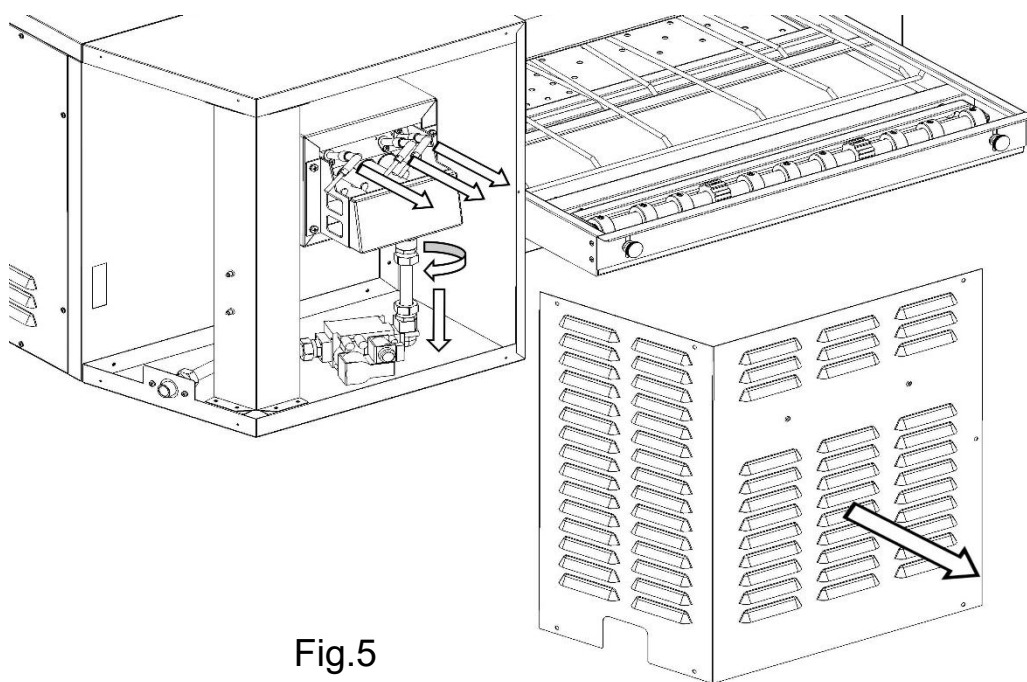

Fig.5
- 2.Remove the casing burner (Fig.5).
- 3.Disconnect the cables from the ignition electrodes and flame detection and disconnect the pipe from the inlet of the gas by unscrewing the fitting close to the burner (Fig.5).
Tapping on the 'Engine' icon (*Fig. 4*) opens the menu for changing the engine type (1-2-3-4). Tap and scroll the dial clockwise or anticlockwise to change the setting (*Fig.5*).